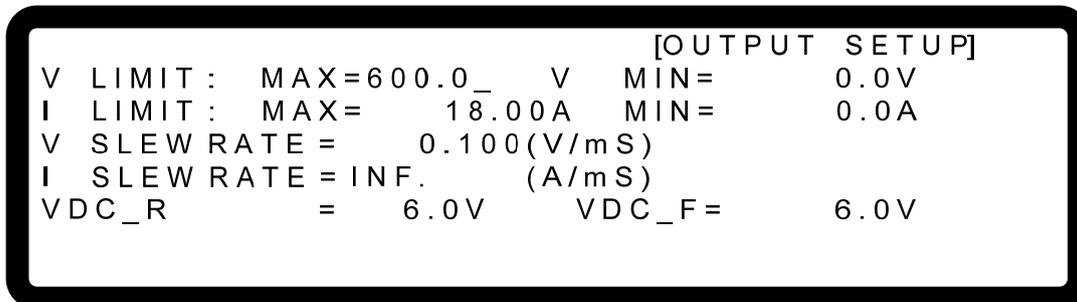

Figure 3-16
1. Use “”, “” keys to move the cursor to the column to be set as Figure 3-16 shows.